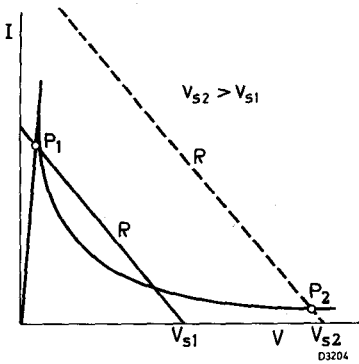

Fig. 6
- (1) V_s increases (figure 6)
- (2) the applied voltage; the higher the voltage the shorter the time taken (fig. 6)
- (3) the ambient temperature; the higher the ambient temperature the less time taken.